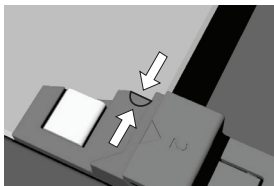

Figure 4
**Note: To replace the glass, make sure the markings (crescent) on the door and the glass are aligned (Figure 4).**